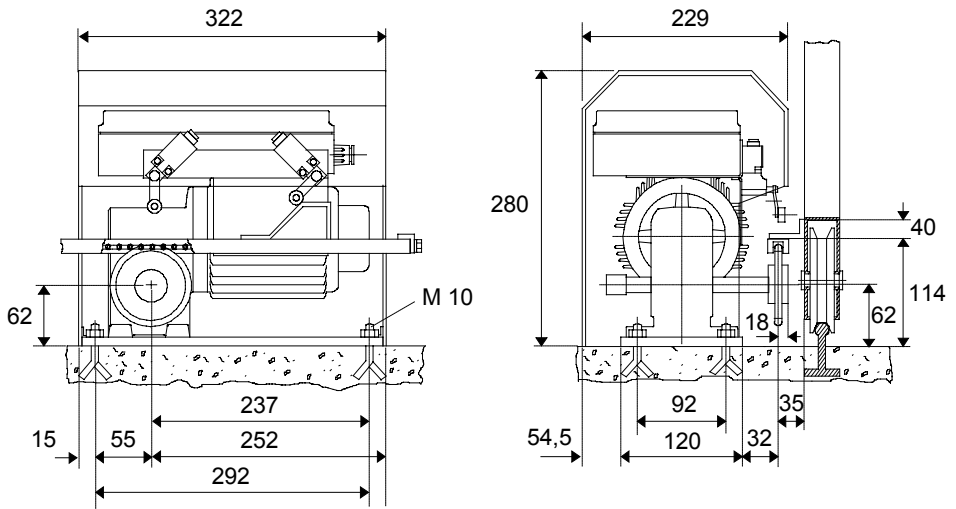

Fig. 6 Dimensional drawing for types WS 300/1, DS 400/1 and DS 600/1 with chain guide and sprocket
2. Mark off 114 mm from the lower edge of the base plate for the WS 300/1, DS 400/1 and DS 600/1 operators, or 160 mm for the DS 1200 operator (see also Fig. 6 and 7) over the entire length on the gate. The dimension must always be measured in the vicinity of the sprocket so that the sprocket securely engages in the chain guide at each position. So push the door a little at a time and measure the dimension.